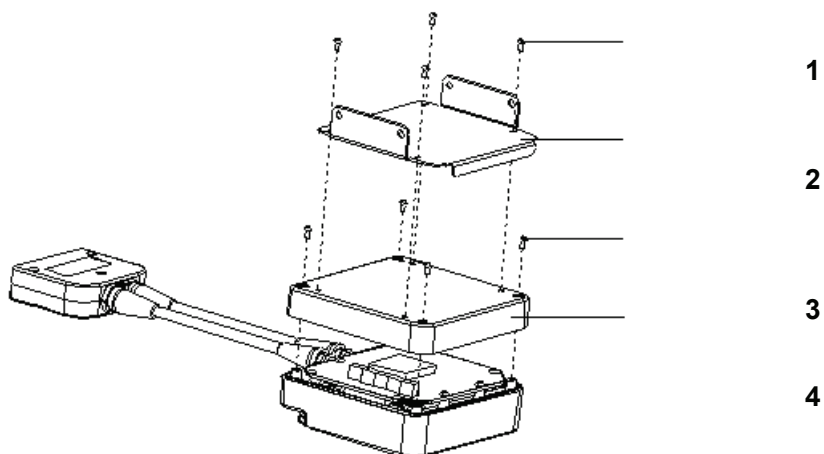

Figure 4-36 Removing Transducer Extension Module (1)
- 1) As shown in Figure 4-36, remove four M3×6 Philips panhead screws, and remove the fixing board of the transducer extension module.